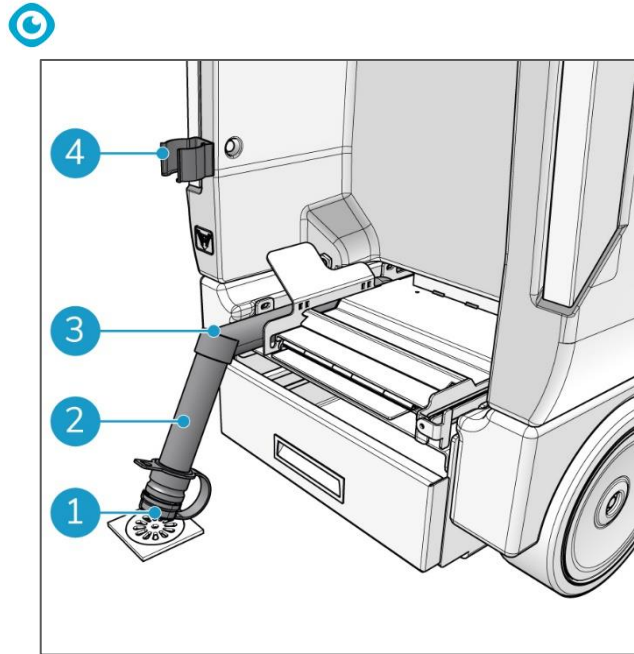

Figure 47
5. Release the recovery tank wastewater tube (Figure 47, pos 2) from the clamp (Figure 47, pos 4).
6. Fold the tube so you create a blockage (Figure 47, pos 3).
8. Loosen the lid (Figure 47, pos 1) of the recovery tank wastewater tube.
13. When the recovery tank is clean, place the recovery tank wastewater tube in the clamp (Figure 47, pos 4).
14. Tighten the lid of the recovery tank wastewater tube (Figure 47, pos 1). Make sure it seals correctly to avoid false air being sucked in.